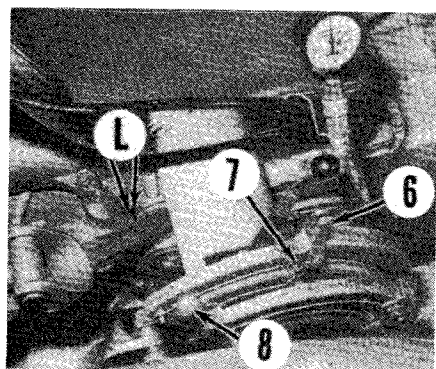

Fig. 178—Refer to text for checking and adjusting transport stop. Pressure control model shown.
If pressure control type, move inner quadrant lever (6—Fig. 178) to “CONSTANT PUMPING” range forward of the transport stop (7). Scribe a line (L) across lift arm hub and lift cover casting. Move inner lever forward in “POSITION” control range to lower the lift links, then move lever back against the transport stop. Measure the distance that scribe lines are separated.